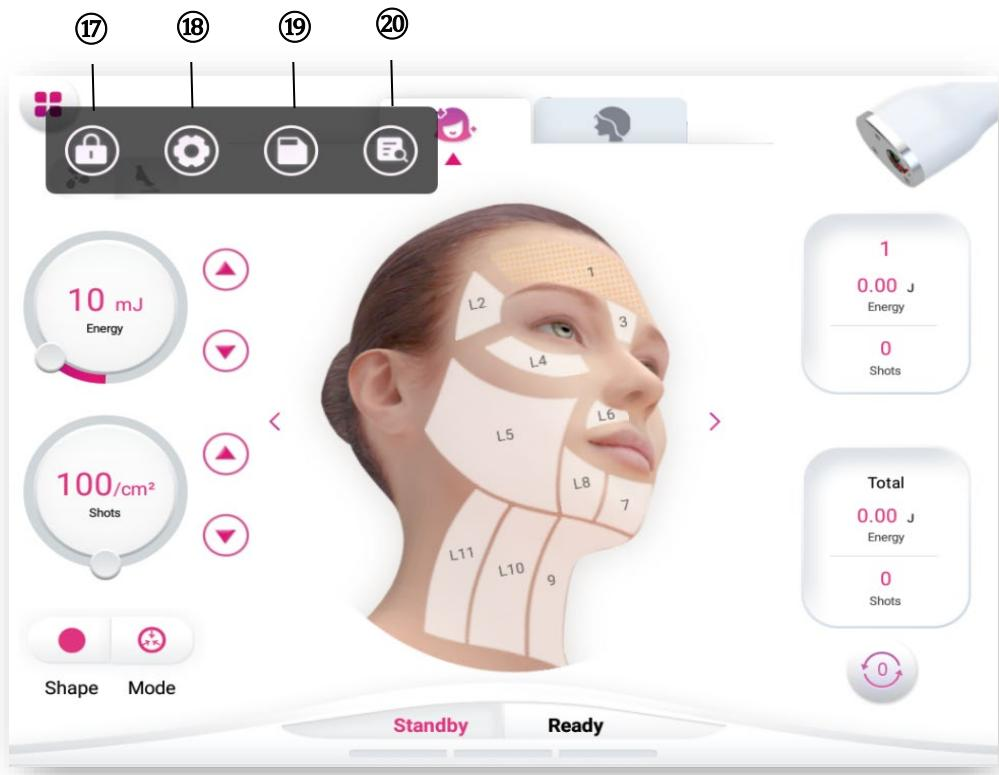

Figure 3-5-1
①Menu: Clicking on the menu, which has buttons for screen lock, settings, fast parameters setting and calling, as shown in Figure 3-5-1.
②③Cryoshot® and footswitch: display the status of the Cryoshot® and footswitch; highlighted Icon means connected.
④Single pulse laser energy: the maximum is 70mJ
⑤Shots density: 100-500 shots/cm²
⑥Treatment shape: circle, triangle, rectangle, hexagon, ellipse.
⑦Scan mode: horizontal, vertical, outward, inward, random, disorder.
⑯Shoot Mode: Single mode or Repeat mode.